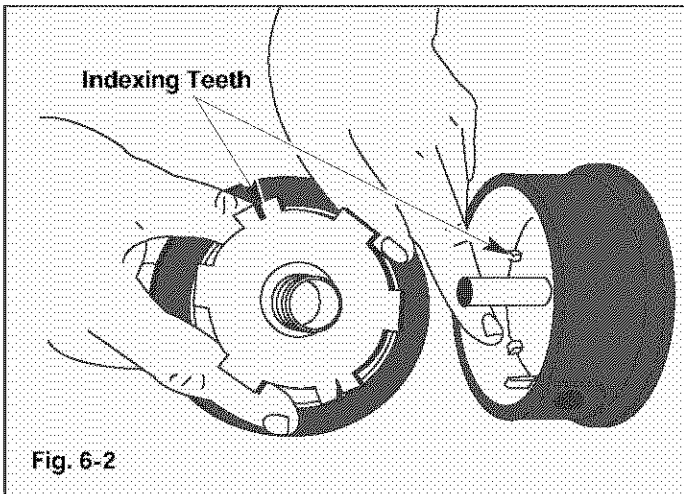

Fig. 6-2
5. Check the indexing teeth on the inner reel and outer spool for wear (Fig. 6-2). If necessary, remove burrs or replace the reel and spool.